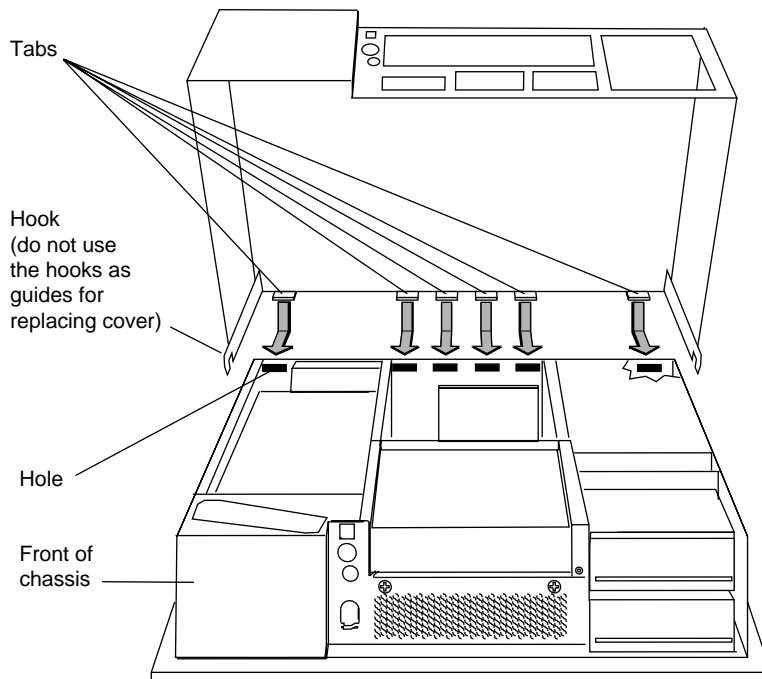

Figure 2-17 Looking Through the Holes to Place the Tabs
1. Locate the tabs on the inside and back of the top cover and the holes on the back of the workstation. See Figure 2-17.